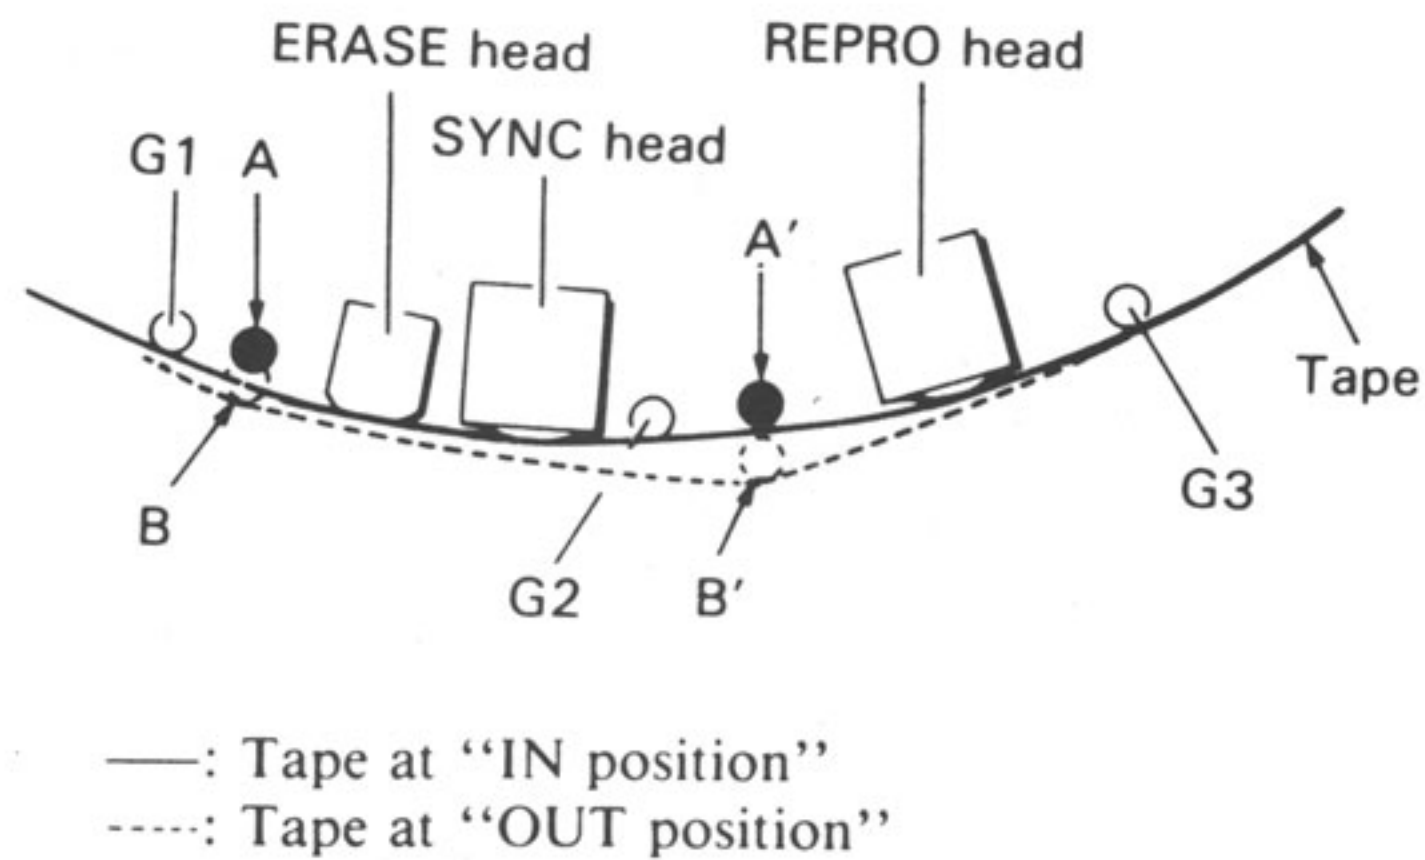

Figure 6-10. Lifters Position
The fundamental purpose of the lifters is to prevent wear of the heads during Rewind and Fast Forward modes. The ideal relationship between the tape and the lifters is illustrated in Figure 6-10. The solid line represents the tape during the in position of the lifters, and the dotted line is the tape during the out position.
STEP 3. Move the stopper plate in the appropriate direction of the arrow so that the clearance between the tape and the right lifter shaft (A' in Figure 6-10) is between 1.0mm and 1.5mm.